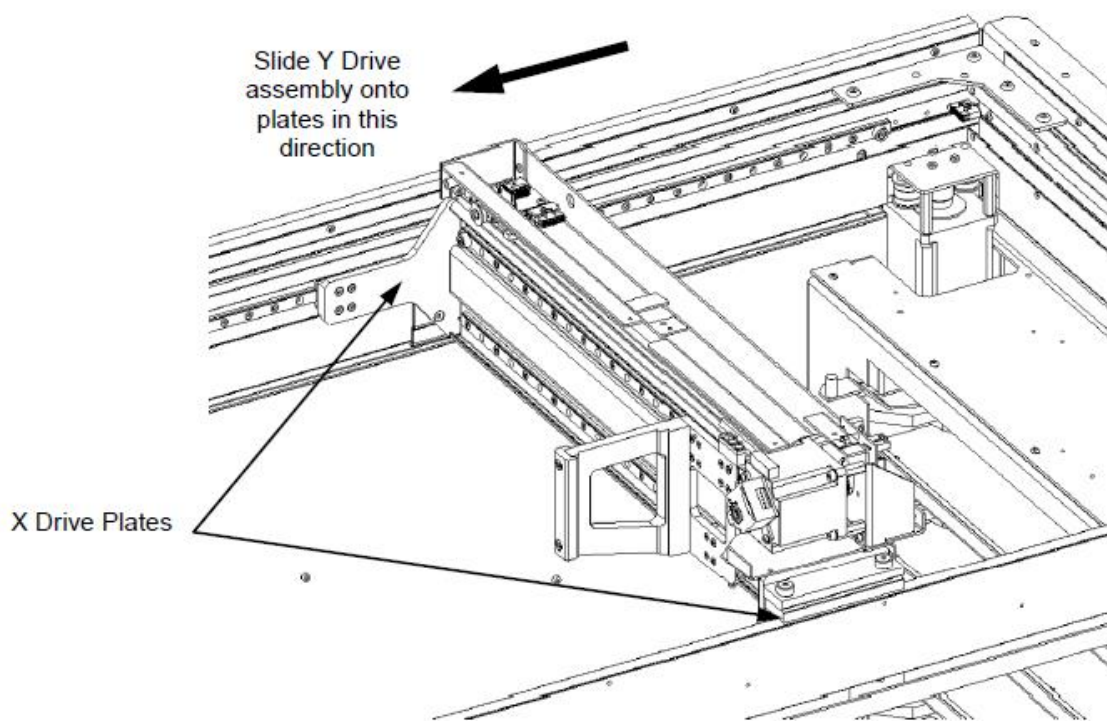

Figure X-25: Sliding the Y Drive over the Drive Plates on the X Drive
5. Slide the Main Y Drive over the drive plates on the Main X Drive in the direction shown in Figure X-25. For clarity, only the Y Drive is shown in Figure X-25.